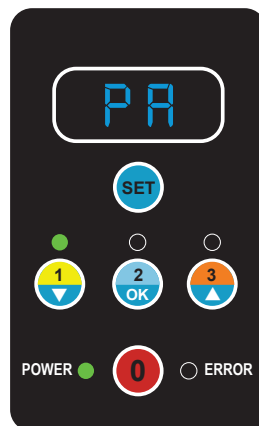

Figure 9 - PR Shown on Display
1. Enter programming mode by pressing and holding the  button for at least three (3) seconds when the pump is in the stopped (OFF) position.
2. Use the  and  buttons to select PR. (See Figure 9). Press the  button to enter the priming menu.